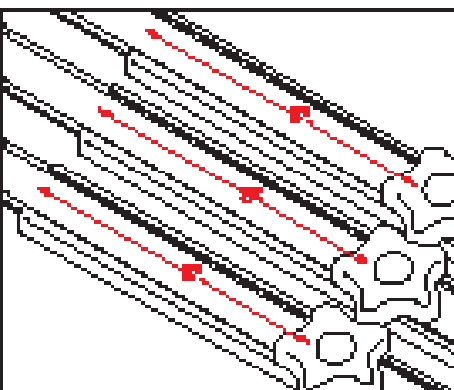

Fig.9
2. Line up the remaining Awnbrella arms and adjust them as done in step 1. (**Fig.9**). Adjusting the arms now will make it easier to properly insert them later.